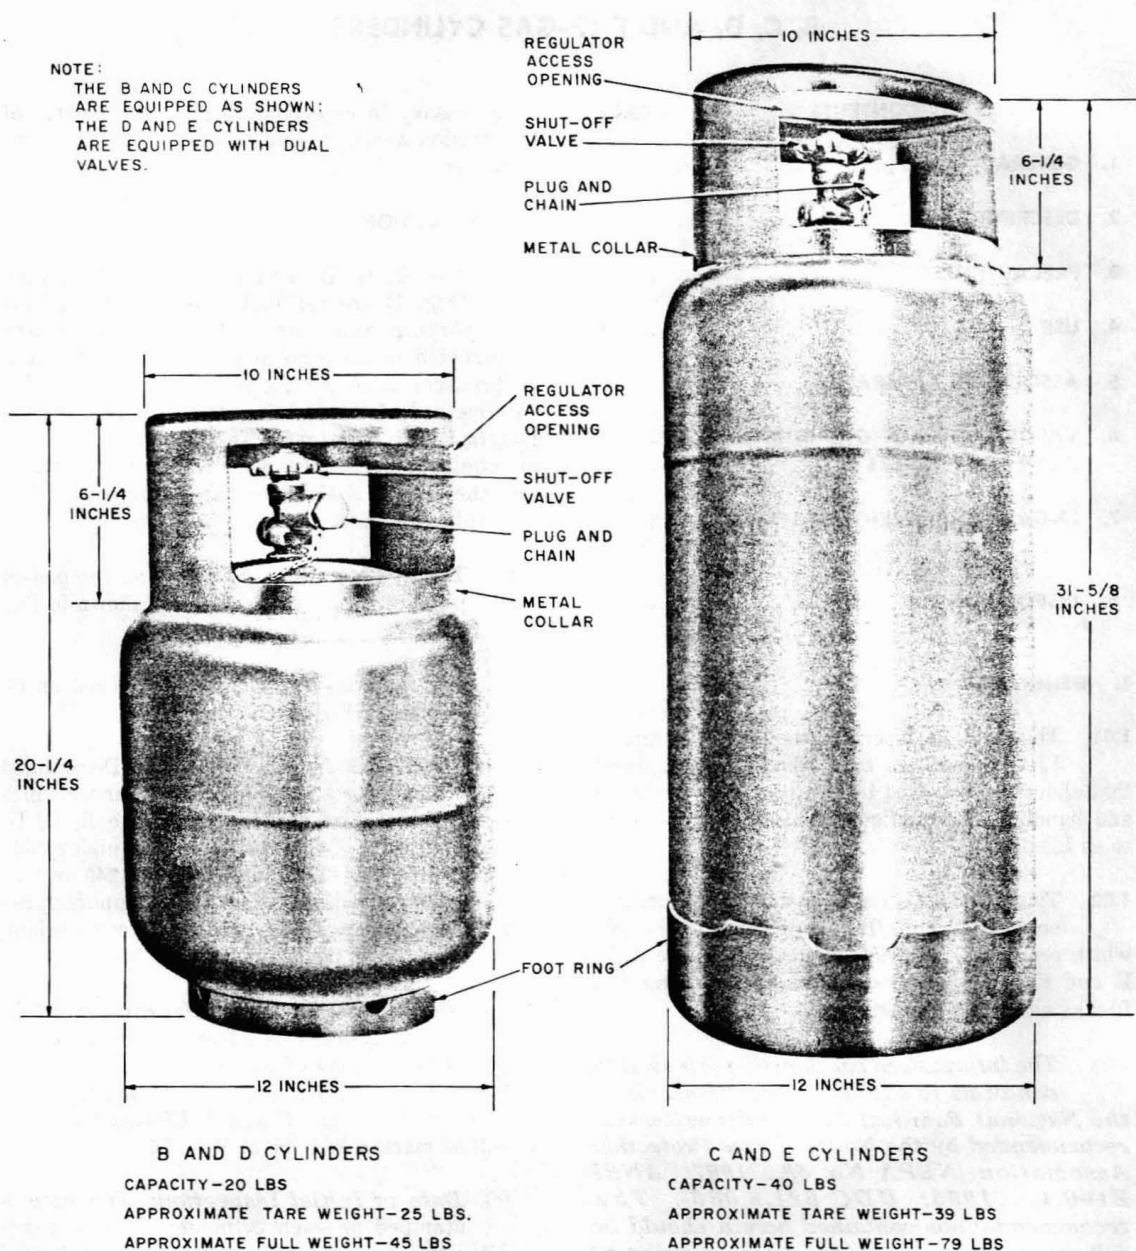

Fig. 1—LP-Gas Cylinders
**2.01** The B, C, D, and E LP-Gas Cylinders (Fig. 1) are refillable steel containers for transporting and storing LP-Gas. They are constructed in accordance with the Department of Transportation (DOT) regulations to afford a safe method of transporting, storing, and handling liquefied petroleum gas. The B and C Cylinders are equipped with the standard vapor release valve, and the D and E Cylinders are equipped with a dual valve for releasing liquid or vapor fuel.
**2.02** The weights, measurements, and component parts of these cylinders are as shown in Fig. 1.
**2.09** A metal collar, 10 inches in diameter and 6-1/4 inches high, is provided to protect the shut-off valve. On newer models the regulator access opening in the collar has been enlarged and made rectangular as shown in Fig. 1. The regulator access opening on the older models is circular.
**2.10** A foot ring (Fig. 1) is provided to support the cylinder in the vertical position. The foot rings of the C and E LP-Gas Cylinders have been enlarged and strengthened with a rolled edge base.